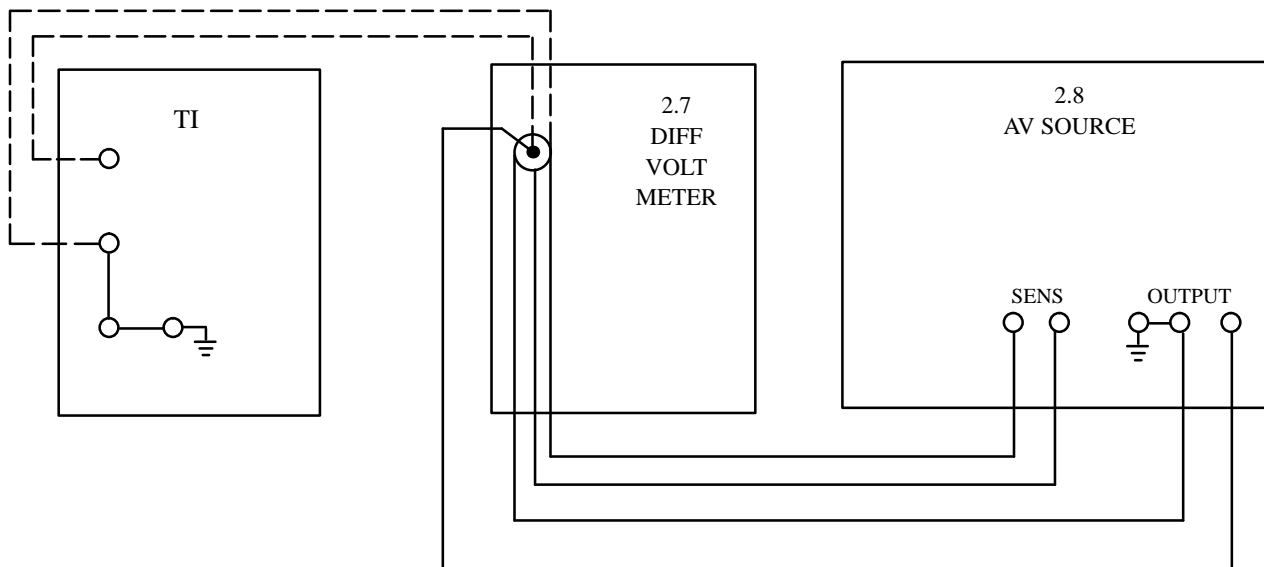

Figure 6. AC Voltage Test Configuration
4.6.1 Connect the AV source to the differential voltmeter as shown by the solid line in Figure 6.